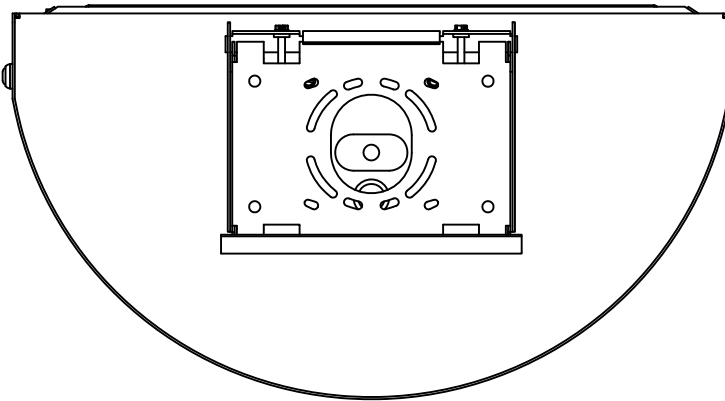

FIGURE. 1
1. REMOVE LUMINAIRE AND MOUNTING PLATE FROM CARTON. PLACE LUMINAIRE ON CARDBOARD TO PROTECT FINISH. POSITION LUMINAIRE SO CLAMP SCREWS ARE FACING UP. SEE FIGURE 1.